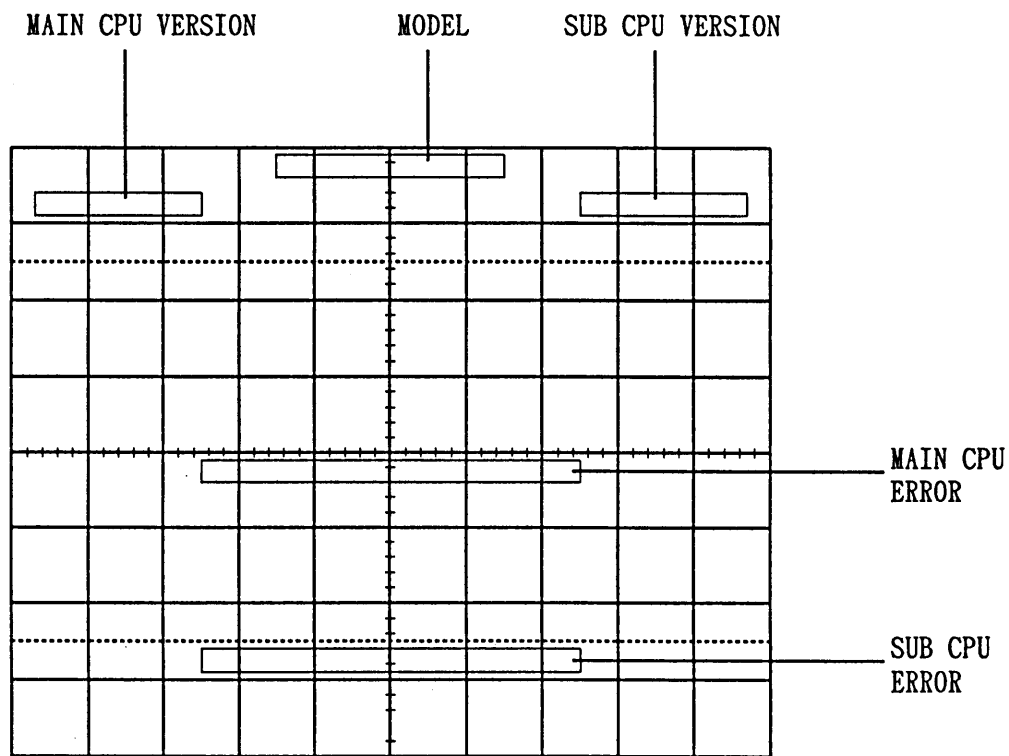

Figure 7.1 Diagnostic Messages Displayed on CRT
Other memory units than the above can be checked by pressing the READOUT control ③ while keeping the 2ND FUNCTION KEY ④ pressed. For COM7100AGP, and COM7060AGP, the INTEN control ② acts as a second function key as in the case of initial mode setting. In this case, messages as shown in Figure 7.1 are displayed on the CRT for about 3 seconds.